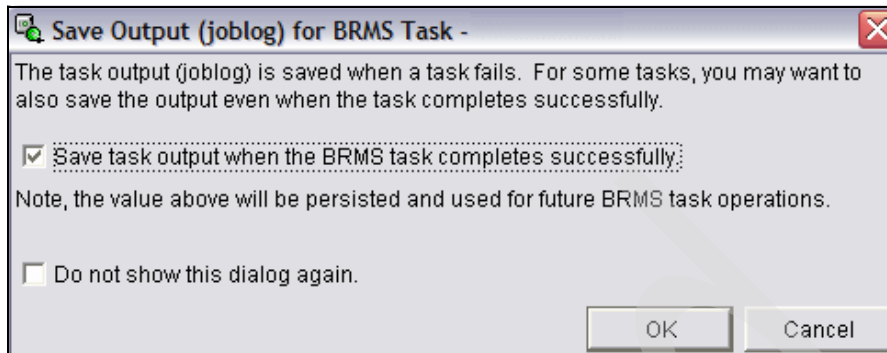

Figure 7-72 BRMS restore, produce joblog
7. The next window, shown in Figure 7-72 on page 399, asks if you want to see the joblog. In this scenario, since we do, click **OK**.